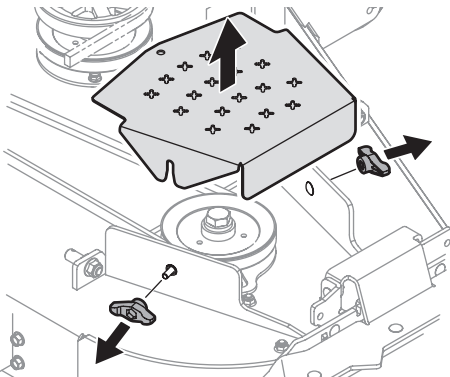

Figure 12
- Clean the top of the mower deck, under the spindle covers and belt area (Figure 12).